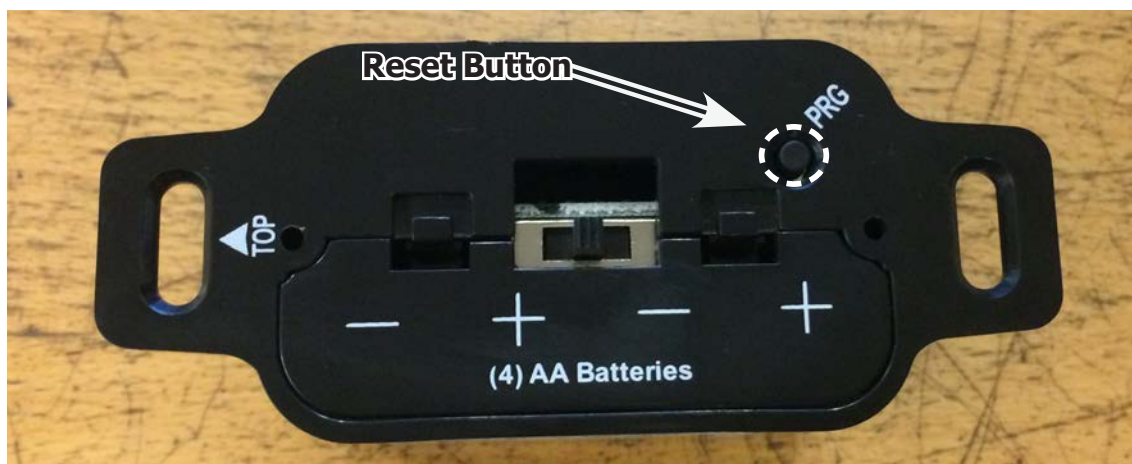
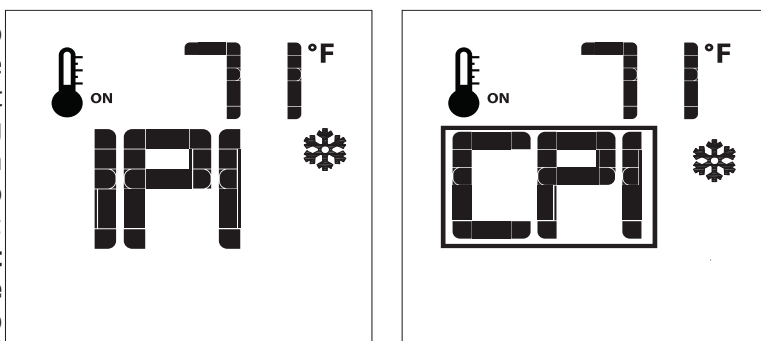

Figure 39: Battery Holder.
Figure 41: CPI Pilot Mode.
The Battery Holder (Figure 39) connects directly to the IFC with a wiring harness. The IFC is powered by four (4) AA type batteries. The IFC accepts commands via radio frequency from the Transmitter to operate the appliance in accordance with the particular Proflame system configuration. The Battery Holder has a three (3) position slider switch that can be set to one of three positions: ON (Manual Override), Remote (Remote control), or Off. The Battery Holder has a reset button at the front right corner that is used to synchronize the Transmitter when using the for the first time, or after the batteries have been replaced.
Install the four (4) AA batteries into the IFC battery holder. Note the polarity of the battery and insert into the battery bay as indicated on the body of the battery holder. Press the reset button on the Battery Holder marked "PRG" (see Figure 39).
With the system in the "OFF" position, press the Thermostat Key and the Mode Key at the same time. Look at the LCD screen on the transmitter to verify that a °C or °F is visible to the right of the Room Temperature display (see Figure 39).
When the Q4 is turned off press the mode key to index to the constant pilot (CPI) mode icon (see figure 41). Pressing the up arrow key will select Continuous Pilot Ignition (CPI) and pressing the down arrow key will return to IPI. Once a selection is made the IFC will beep once to confirm it had received the command. **NOTE: It is recommended to use the continuous pilot mode during the winter when the outside temperature is below 50°F (10°C) to keep the chimney properly heated for updraft during burner ignition.** Continuous pilot mode also keeps the firebox warm which eliminates both heat loss to cold air that is trapped inside the firebox as well as excessive exhaust vapour condensation on the door glass.
2. Install the Receiver in the Junction box using the existing J box screws (Figure 39).
3. Insert the four (4) AA type batteries in the battery compartment with the correct polarity.
9. Using the two (2) screws provided secure the cover plate to the Receiver.
- is now displayed (see Figure 41). To adjust the set temperature, press the Up or Down Arrow Keys until the desired set temperature is displayed on the LCD screen of the Transmitter.